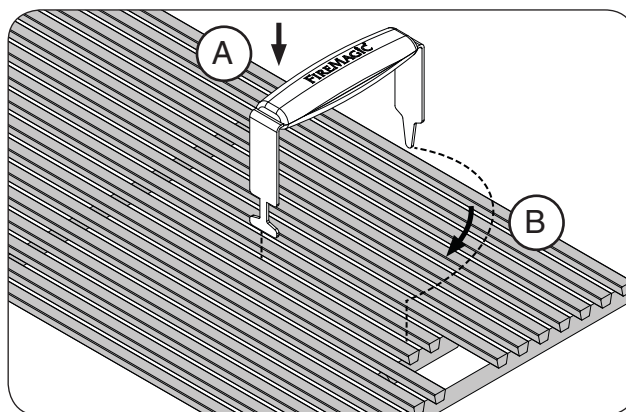

Fig. 21-2 Install cooking grids
Place the flavor grids onto the front and rear flavor grid rests. Align the cutouts on the grids to the lighting tubes. See Fig. 21-2. **The short grids are designed to rest over the outer burners and the tall grid(s) over the inside burner(s).** The flavor grids allow heat from the burners to be evenly distributed throughout the cooking area. The tall side walls are designed to allow for maximum heat control and thermometer accuracy in each zone.
1. With the prongs facing downward, insert the notched-end of the lifter between two grid rods, then rotate, as shown in Fig. 21-2, A & B.
2. Insert the rear pointed-end of the lifter between the same two rods (Fig. 21-2, B) and carefully lift the cooking grid and place onto the front and rear grid rests of the grill (see Fig. 21-3). Repeat for all other cooking grids.